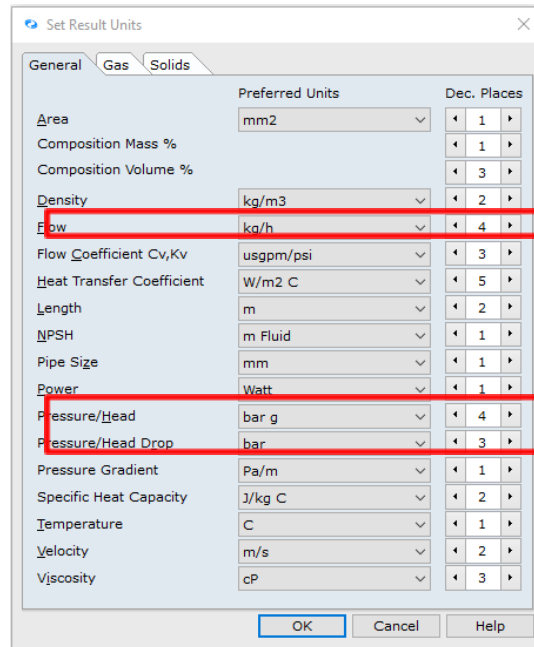

Figure 34: Modified Set Result Units Dialogue Box.
32. The Set Result Units dialogue box should now look like the screenshot given below (Figure 34). Select **OK** to apply the changes.